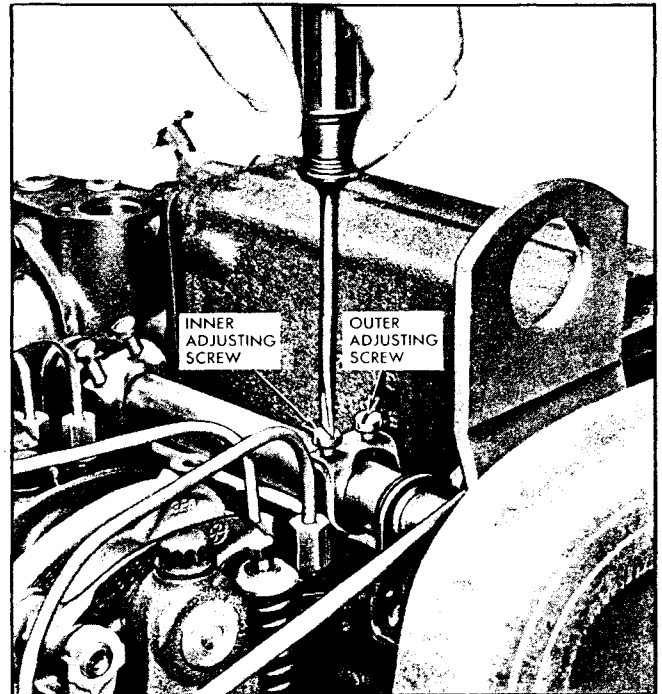

Fig. 2 - Adjusting Height of Rack Control Lever Adjusting Screws
1. Adjust the inner and outer adjusting screws (Fig. 2) on the rear injector rack control lever on the control tube. Check the clearance between the fuel rod and the cylinder head bolt or the cylinder head casting (below the bolt) for at least $1/16$ " clearance when the injector rack is in the full-fuel position and the rack adjusting screws are tight. If the fuel rod contacts the bolt or the cylinder head casting, re-adjust the screws to obtain the $1/16$ " clearance.